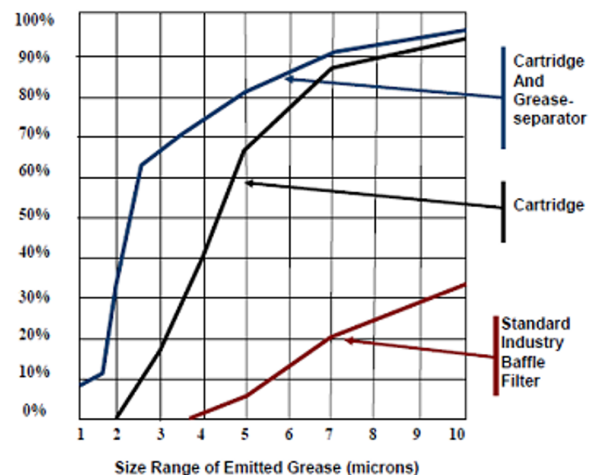

Figure 1a: grease removal efficiency chart
- Use high efficiency cartridge style hoods. (see figure 1a)